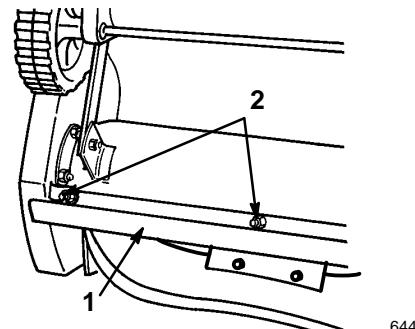

Figure 16
4. Remove three carriage bolts and the locknuts holding scraper in place (Fig. 16).